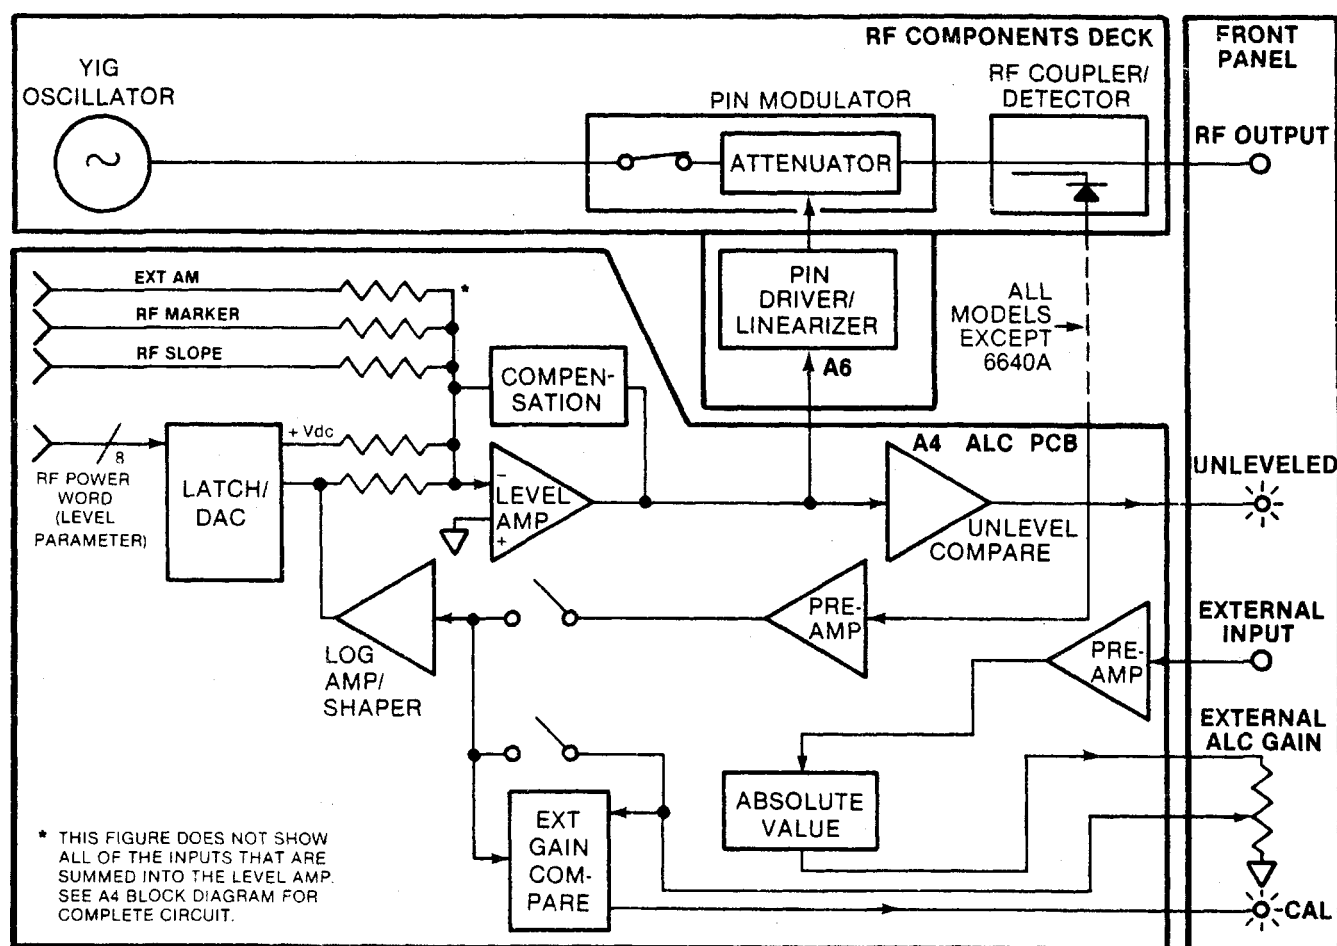

Figure 7-42. Sweep Generator Overall Leveling Loop
The sweep generator ALC loop (Figure 7-42) consists of the following circuits and components:
As shown in Figure 7-42, the output from the RF Oscillator is applied to the RF Coupler/Detector via the PIN Switch. A sample of the RF power signal, attenuated by approximately 16 dB, is coupled to the RF detector. If internal leveling has been selected, the detector output signal is applied
- b. Level-Dip Logic Circuit. This circuit (Q2) causes the PIN Switch Attenuator (Figure 7-42) to go to maximum attenuation ("dip" RF power) when any of the following occurs:
- g. Sq Wave Sample/Hold Logic Circuit. This circuit (Q3, U2C, U1D, U23A, U23B, U2F, U23C, U23D, U20B) provides for square wave modulation of the RF output signal, at rates up to 30 kHz. The inputs to this circuit are the **EXT SQ WAVE IN** signal from the rear panel connector and the **L RF OFF DURING RETRACE** control line from NAND gate U1A. When the **EXT SQ WAVE IN** signal goes negative or when the **L RF OFF DURING RETRACE** line goes TRUE, the **L PIN SW OFF** line goes TRUE and opens the PIN Switch (Figure 7-42). When open, the PIN Switch attenuates the RF output signal by ≈ 40 dB. When the **EXT SQ WAVE IN** signal again goes positive (or **L RF OFF DURING RETRACE** goes FALSE), the **L PIN SW OFF** line goes FALSE and closes the PIN switch. The ALC loop cannot respond fast enough to track the changes in RF output during square-wave modulation. Therefore, a sample-and-hold network is used to open the ALC loop and hold the previous PIN switch drive current when modulation is applied.
Circuit. This U23B, U2F, s for square output signal, inputs to this VE IN signal or and the L control line the EXT SQ or when the CE line goes e goes TRUE Figure 7-42). attenuates the . When the n goes posi- RETRACE FF line goes switch. The st enough to output during therefore, a used to open previous PIN modulation is